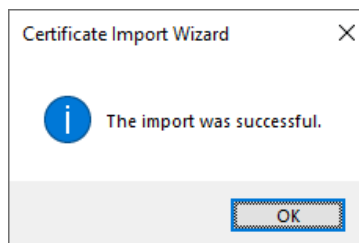

Figure 62: Certificate Import Confirmation
13. On the confirmation dialog box (Figure 62), click **OK**.